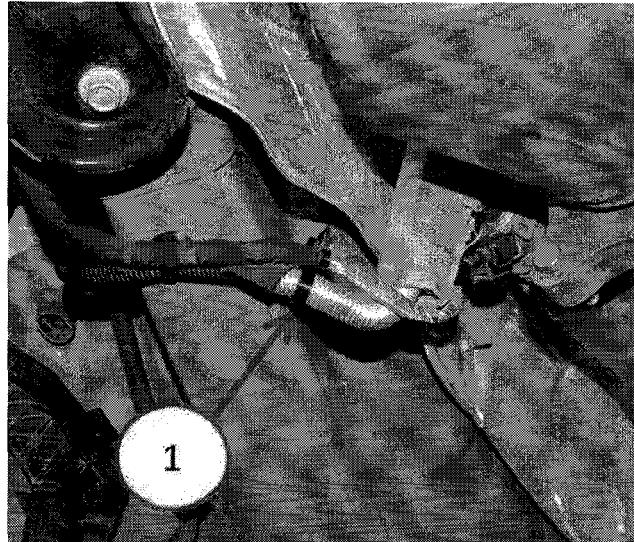

Fig. 6 WIRE TIES INSTALLED
8. Loosely attach fir tree receiving clip PN 05030560AA to DEF line near end of foil covered area of convolute (Fig. 6).